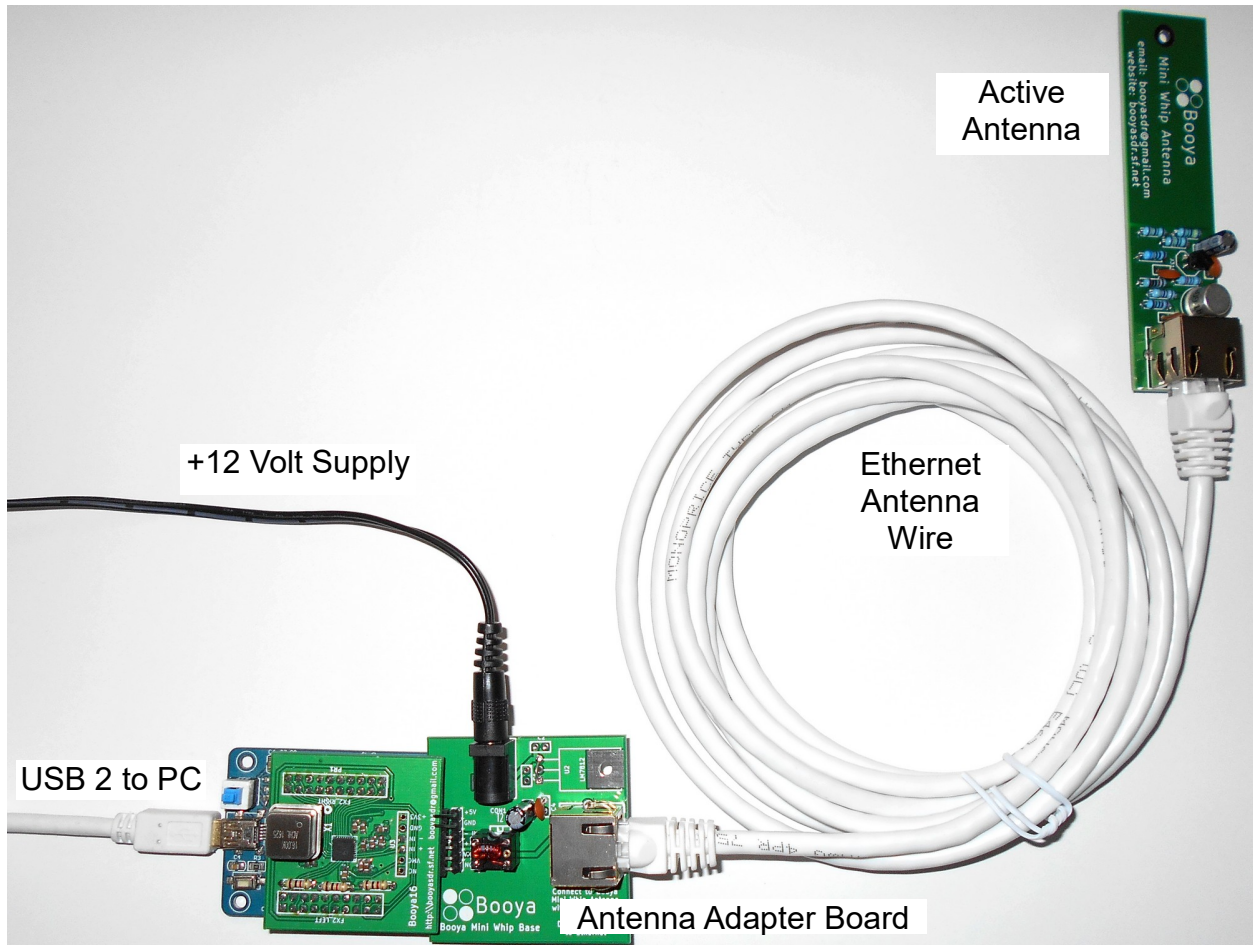

Figure 3. Assembled Booya16 SDR
1. Connect the Booya SDR hardware components as shown in Figure 3